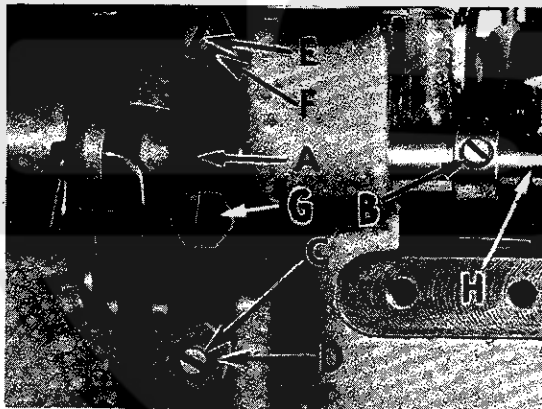

Fig. 16
Assemble the presser foot to presser arm. With needle in high position, swing presser arm into sewing position and set the presser foot to align needle holes (front and back) and flat on throat plate. The front edge of needle hole in presser foot must be aligned with front edge of needle hole in throat plate. It is also important that the bottom of the presser foot be flat on the throat plate. If necessary, presser foot can be re-aligned with throat plate slots by shifting the foot lifter lever shaft (H, Fig. 16). To move the shaft, loosen collar screws (B, Fig. 16) and clamp screw (G) and then shift the foot lifter lever shaft to the left or right as required. Retighten collar screws and clamp screw.
The foot lifter lever arm (A, Fig. 16) and the collar (B) secure the shaft. Be sure the presser arm does not bind and rise when presser foot release bushing is unlocked.